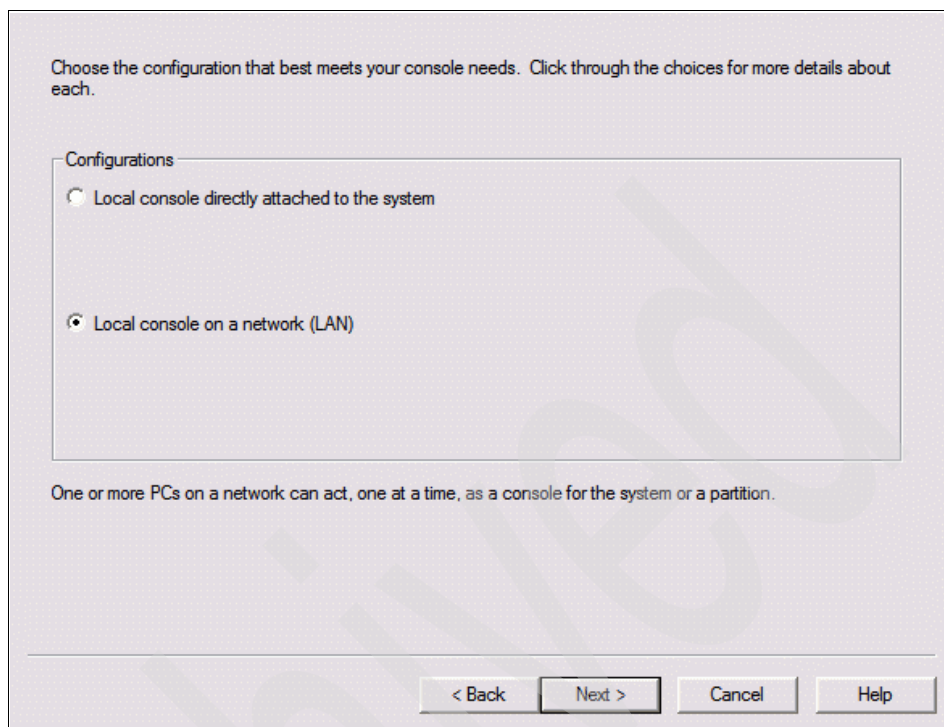

Figure 7-36 IBM System i Operations Console - choose a configuration
4. Depending on the actual infrastructure or existing systems, a connection can be made by using a direct connection or a LAN connection, as shown in Figure 7-36 on page 276.